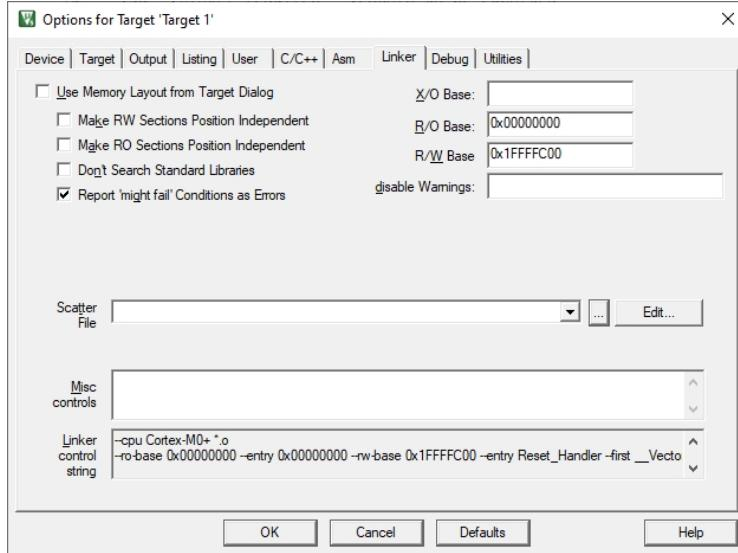

Figure 18. Setting Options for Linker
- Click on the Linker tab along the top of the window to get the options shown in Figure 18.